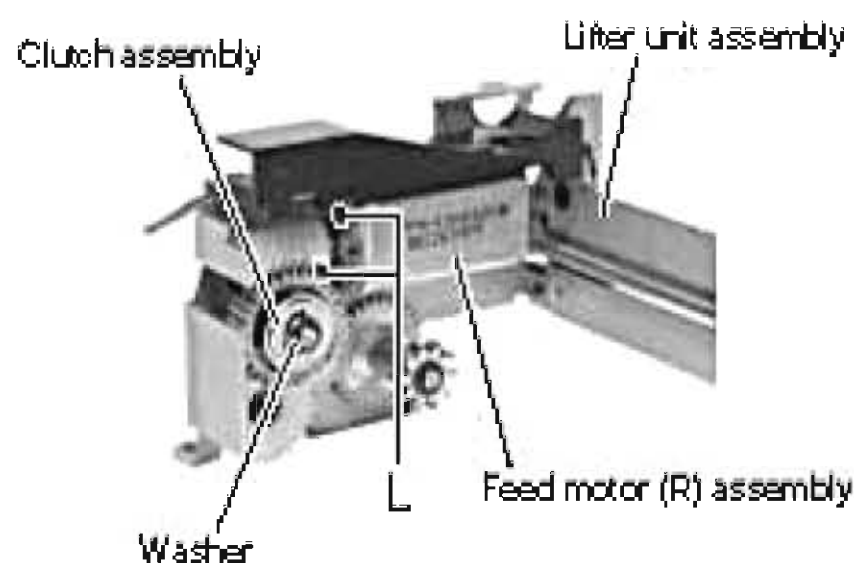

Fig.12
■ **Removing the feed motor (R) (See Fig.12)**
2. Remove the two screws L attaching the feed motor (R).